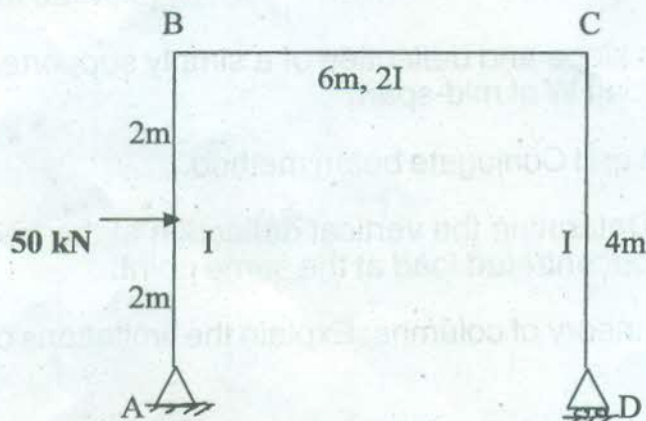

Fig. 2
8. Determine the horizontal displacement at support D of the frame shown in Fig. 2. Relative I values are indicated along the members. $E = 200 \text{ GPa}$, $I = 3 \times 10^{-4} \text{ m}^4$. Use Castigliano's theorem.